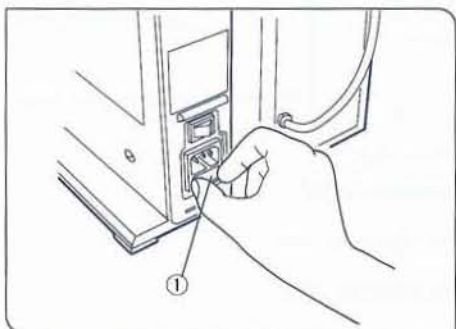

Fig. 15
(Figs. 15,16)
1. Remove the fuse holder ① by squeezing it at the sides and pulling outward. (Fig. 15)